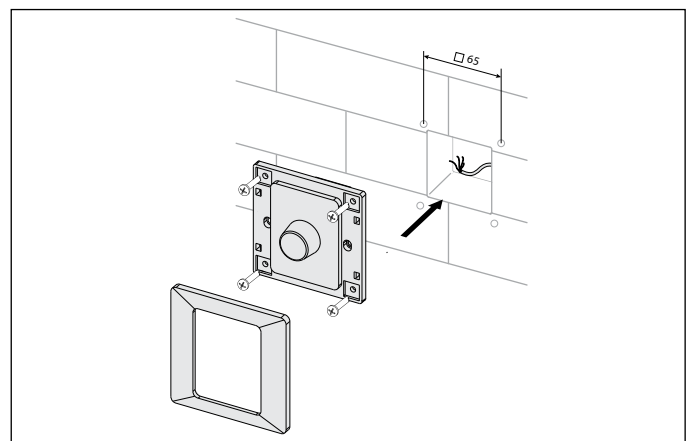

Fig. 5. Speed switch mounting
**CDP-3/5 speed switch mounting (Fig. 5):**